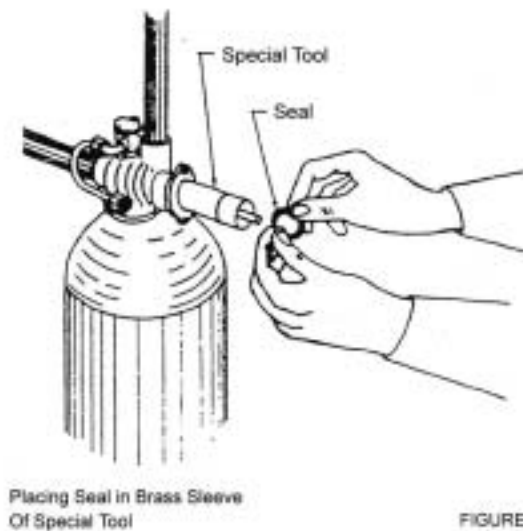

FIGURE 5
12. To restuff a valve body first take the end ring, (the plastic or brass ring without holes), then with your thumb press the button on the brass sleeve end, the large dia. Inner portion is now exposed. (See Fig. 4.) Place the end ring on this pilot with the lip on the end ring facing the tool, and push the tool into the valve body bore until it bottoms. While the tool is in the valve body take a seal and press it into the inside diameter of the exposed brass female end. (See Fig. 5.)
13. Remove the tool, turn it end for end and insert it into the valve body bore. While holding the large dia. Of the tool, slide it all the way into the valve body bore until it bottoms, then push the center button to push the seal out of the tool and leave it in place in the valve body. (See Fig. 5.)